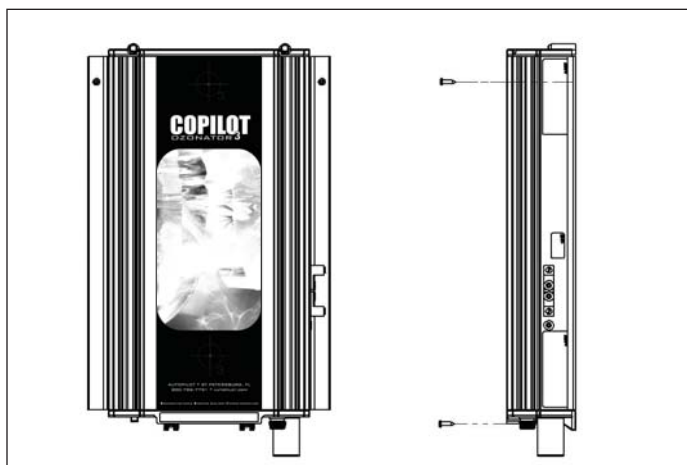

Figure 1 Wall Mount
- A pressure wire connector bonding lug is provided on the outside of the unit to permit connection to a minimum No. 8 AWG (8.4 mm²) solid bonding conductor between this point and any metal equipment, metal enclosures of electrical equipment, metal water pipes, or conduit within five (5) feet (1.5m) of the unit as needed to comply with local requirements.
- Install at least 5 feet (1.5 meters) from wall of pool using nonmetallic tubing. Install ozone generator no less than one (1) foot above maximum water level to prevent water from contacting electrical equipment. Install in accordance with the installation instructions.
- The CoPilot must be installed in an outdoor location, or indoors in a forced air ventilated room, and installed so that the orientation is exactly as shown in Figure 1. Install to provide water drainage of generator to protect electrical components.
The CoPilot units are designed for wall mounting. **See Figure 1.** Mount generator in a clean, protected area, either indoors or outdoors (preferably out of direct sunlight). Locate generator out of reach of sprinklers or drainage spouts. Allow sufficient access for maintenance and all tubing and electrical wires. The ozone generator should be installed at least (not less than) one foot above the maximum water level.
1. Refer to Figure 1 to mark the locations for the four mounting screws.